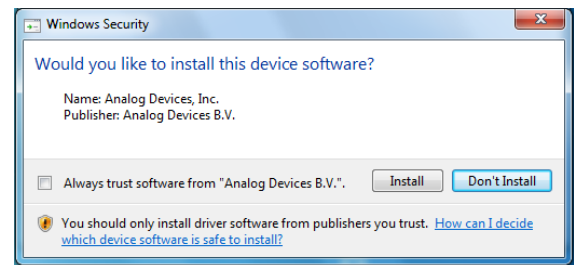

Figure 15. EVAL-SDP-CB1Z Drivers Setup: Granting Permission to Install Drivers
- Click **Install** to install the drivers (see Figure 15).